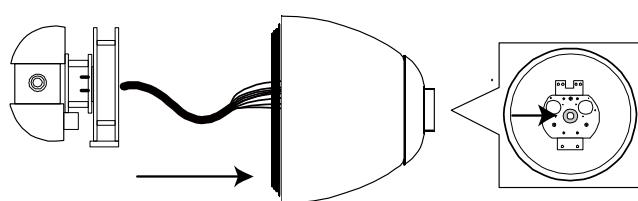

Figure 2
Step 3: Pass the camera cables through the hole in the middle of the housing (Figure 2).